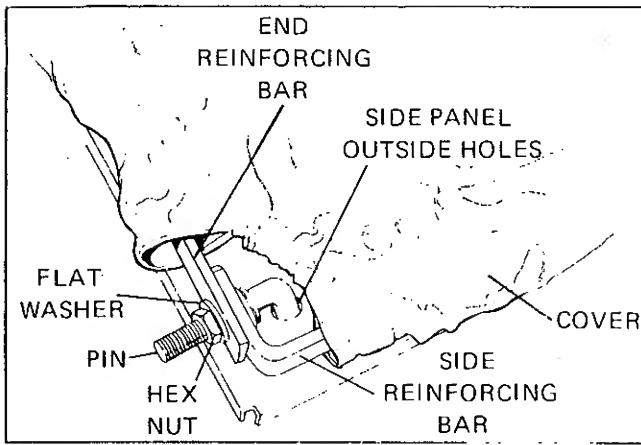

FIGURE 17
- Align reinforcing bar holes and flat washer. From inside, insert pin through holes and secure bars and washer with a hex nut (Figure 17). Repeat procedure for all four corners.